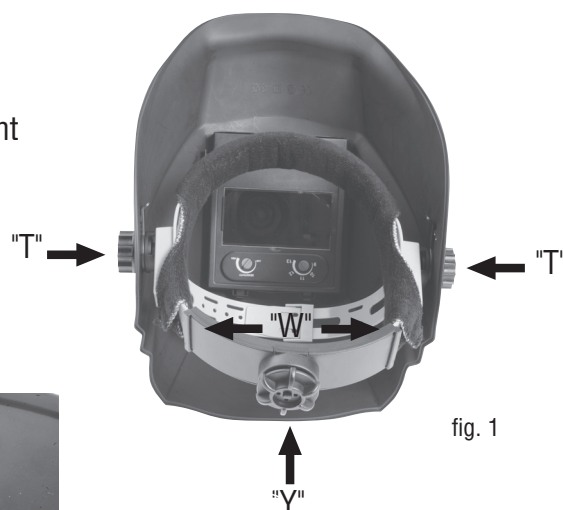

fig. 1
The overall circumference of the headband can be made larger or smaller by rotating the knob on the back of the headband. (See adjustment "Y" in fig. 1.) This can be done while wearing the helmet and allows just the right tension to be set to keep the helmet firmly on the head without it being too tight.
- If the headband is riding too high or too low on your head, adjust the strap which passes over the top of your head. To do this, release the end of the band by pushing the locking pin out of the hole in the band. Slide the two portions of the band to a greater or lesser width as required and push the locking pin through the nearest hole (See adjustment "W" in fig. 1.)
Step 1: Undo the block nut (See "T" in fig. 1) to adjust the distance between the helmet and your face in the down position. It is important that your eyes are each the same distance from the lens. Otherwise the darkening effect may appear uneven.